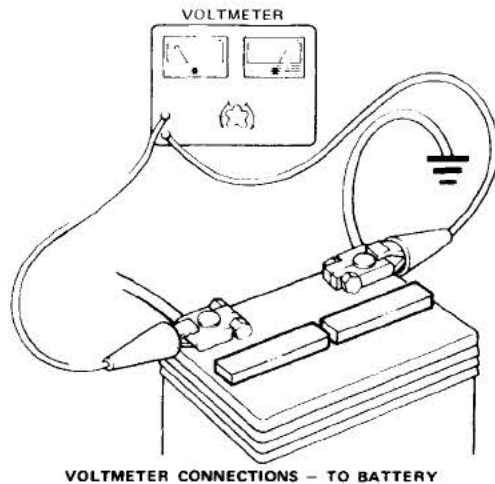

FIG. 1 Voltmeter—To—Battery Connections
2. Connect the positive lead of the voltmeter to the positive battery cable clamp (Fig. 1). Record the battery voltage reading shown on the voltmeter scale, (this is called the base voltage).